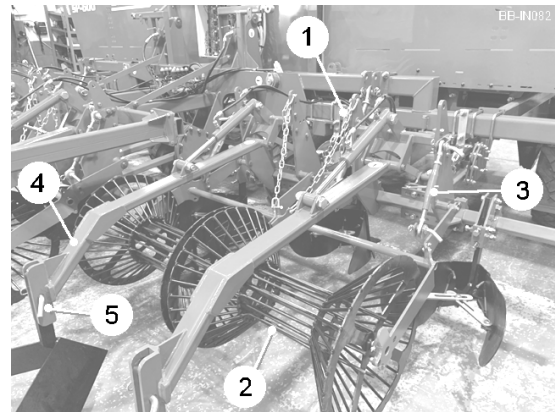

Fig 11a
6. Remove the tool bar transport pins (item 1, fig 4). Swing the links (item 2, fig 4) up into the work position. Refit the pin into the top hole (item 3, fig 4) to secure it during work. Disconnect the cage wheel transport links (item 3, fig 11a).
3. With the outer mouldboards / ridgers on the ground, refit the tool bar links (item 2, fig 4). Adjust the centre link to raise the centre mouldboard / ridgers off the ground. Refit the cage wheel transport links (item 3, fig 11a).
In work, the chains (item 1, fig. 11a) support the cage wheels (item 2, fig. 11a) when lifting the machine at the end of the rows.
Always disconnect the transport links (item 3, fig. 11a) to allow the cage wheels to rise and fall freely in work. Refit the links when transporting the machine on the road.
The working height of the row wipers (item 4, fig. 11a) is set by repositioning the locking pins (item 5, fig. 11a).